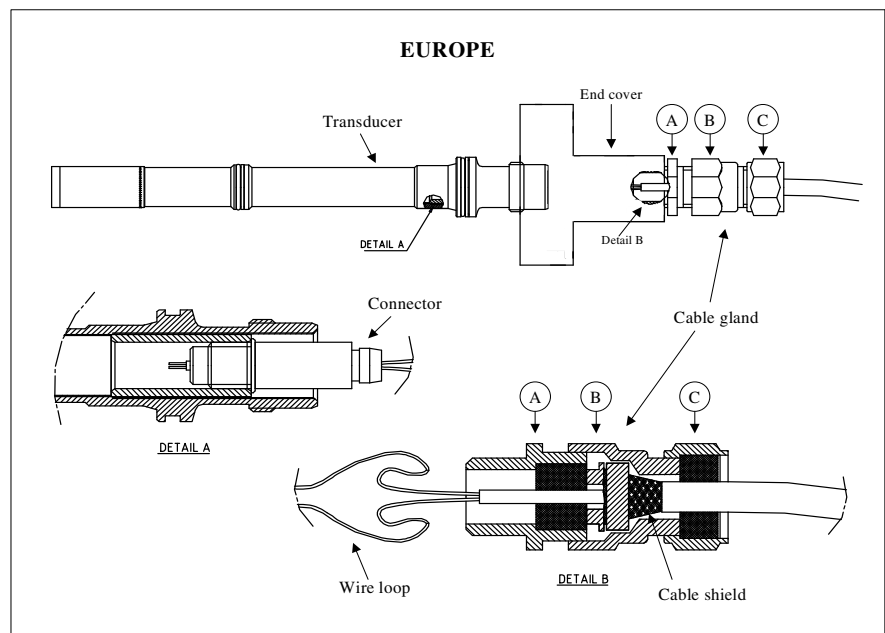

Figure 1 Cable Gland and End Cover (European Model)
- A. Dismount part C of the Cable Gland. See Figure 1 below.